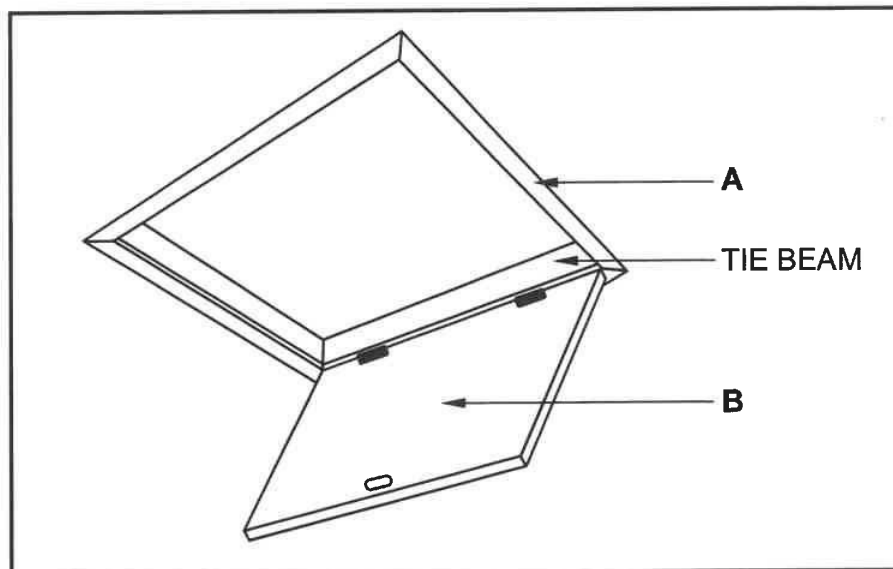

FIGURE 4.6
- 4.6 FIGURE 4.6 below shows a trapdoor. (2)